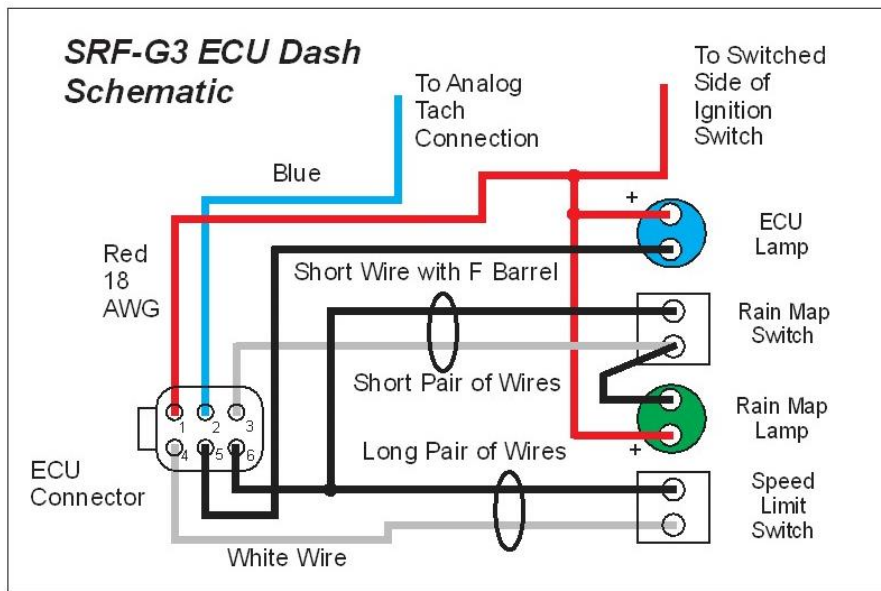

Figure 31 – Dash Wiring – ECU Connections/Side
2. Connect the dash harness following the schematic in Figure 31.